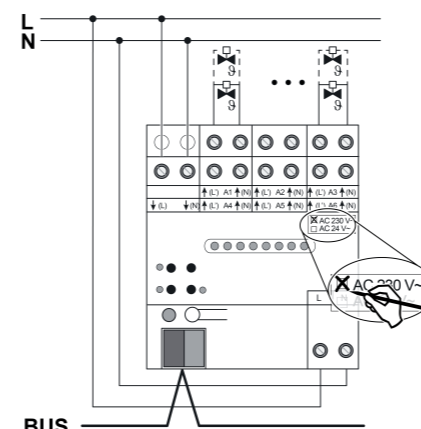

Figure 3: Connection of actuators 230 V
- o Connect the AC 230 V valve drives according to the connection diagram (figure 3).